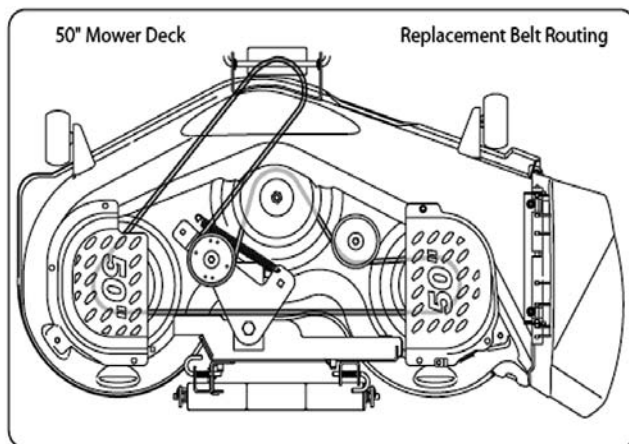

Figure 8.9
- For a 50" deck, See Figure 8.9.